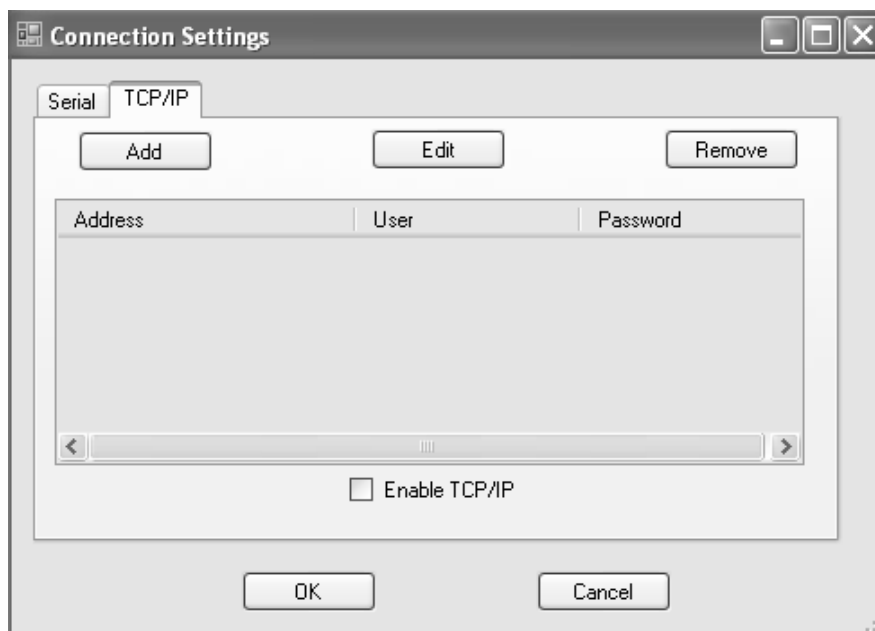

Fig. 2-10. Screenshot of 'TCP IP' selection in the 'Connection Settings' dialog box. TCP/IP connection setting is established here.
- In the Main menu, select 'Connection Settings'. The 'Connection Settings' dialog box will pop up as shown in Fig. 2-10.